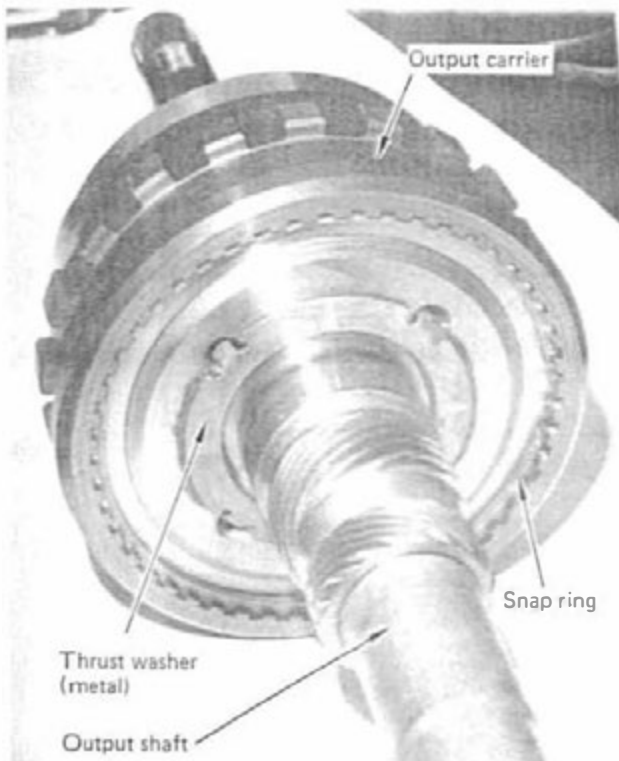

FIGURE 27
STEP 3. Remove the snap ring from the back side of the output carrier. (See Fig. 27) Note: This is a strong snap ring. Disassemble output shaft from carrier. There is a bearing assembly between the output shaft and the rear internal ring